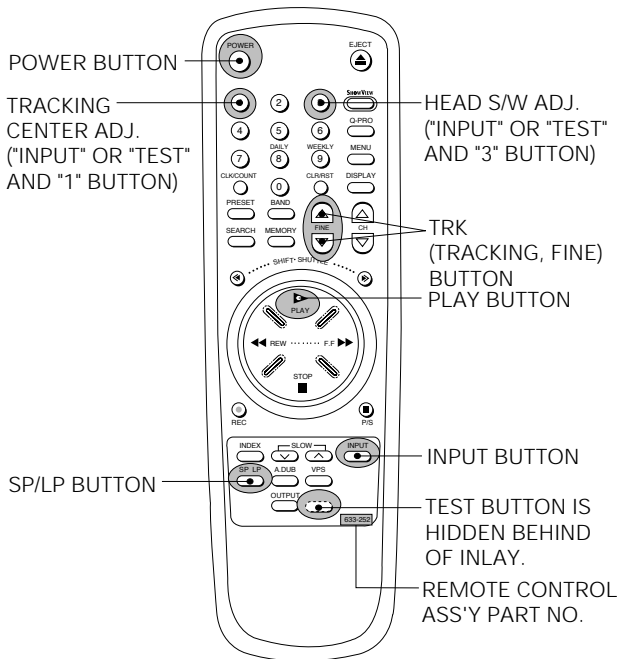

Fig. 5-1 Remote Control Ass'y Jig for X-5/X-6 Chassis (AC93-10039Y/69099-633-252)
1. Remote control ass'y (AC93-10039Y/69099-633-252) is specified as a service jig in the service manual of X-5/X-6(DX5-R/DX5-RC/DX6-R/DX6-RC) chassis. (See Fig. 5-1)
1. Disattach the inlay of remote control ass'y. (See Fig. 5-1, 5-2 and 5-3)
2. Press the "TEST" button with the pincers and the precise driver as shown in Fig. 5-1, 5-2 and 5-3)
(See Fig. 5-1, 5-2 and 5-3)